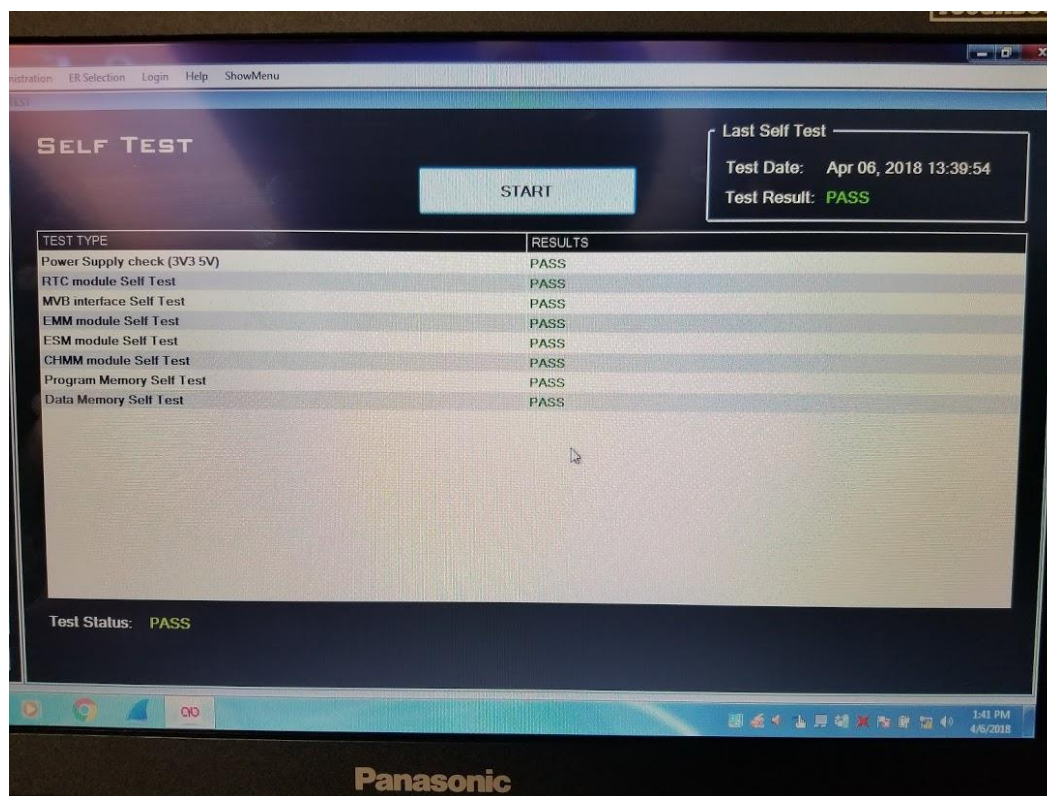

Figure 8-7: PTUforER-Lite Self Test Screen
5. When you click on the test button it takes you to the self test screen. See Figure 8-7.